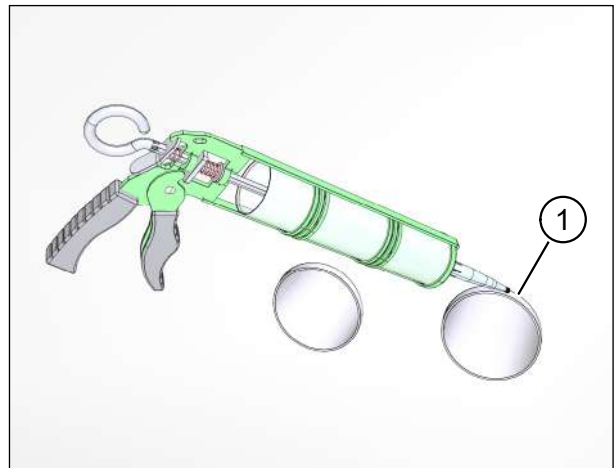

Fig. 42: Sealing ventilation pipes on external wall
- ▶ Chamfer both pipe breakthrough edges (item 1 in Fig. 42) to roughly  $5 \times 45^\circ$  to create enough space for the sealing joints with permanently elastic sealant.